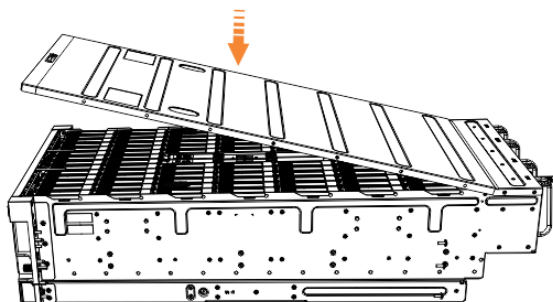

Figure 134. Aligning the top cover
6. Carefully lower the cover and ensure that it is aligned correctly with the back of the enclosure, as shown in Figure 134 on page 199.